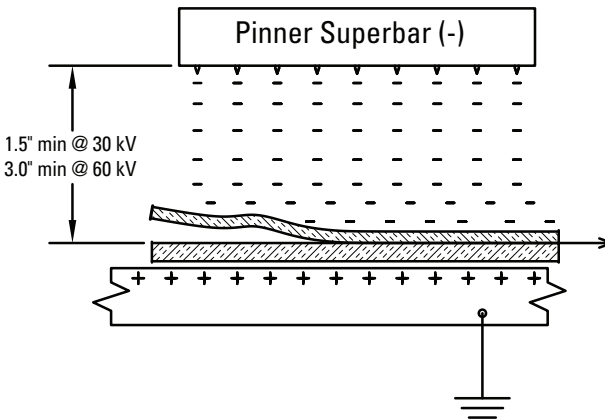

Figure 1
- Charging Bar with Grounded Surface** – In Figure 1, the charging bar faces a production fixture that moves beneath the charging bar (alternatively the bar could move over the fixture). After the materials to be pinned together are positioned on the fixture, it moves beneath the charging bar. The negative ions created by the bar are driven toward the grounded metal fixture by an electric field formed between them. The top material blocks ion travel through the field and becomes electrostatically charged, resulting in adhesion between the two materials and the fixture. This arrangement emulates an interleaving application where paper or film is pinned to metal prior to cutting and stacking.